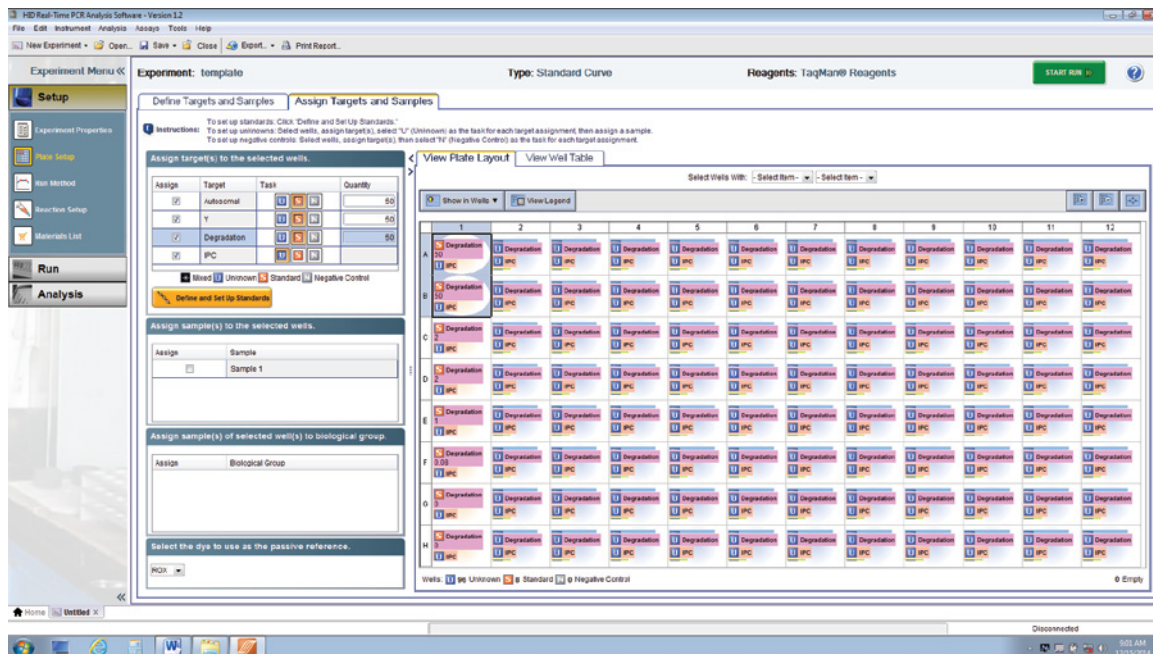

Figure 26. Assigning DNA concentrations to wells with DNA standards.
- Highlight the wells containing the DNA standards on the 'View Plate Layout' tab, and select **S** as the Task for the autosomal, Y and degradation targets (Figure 26).